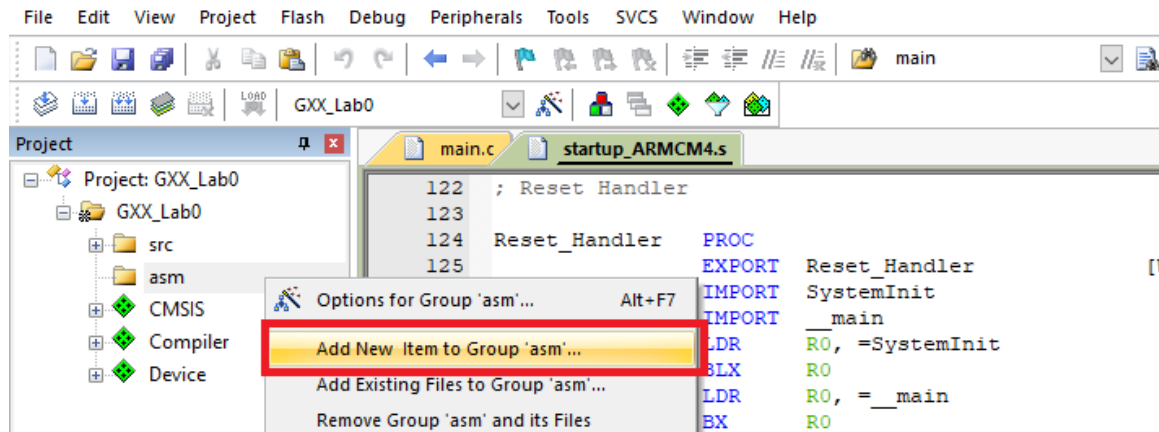

Figure 19: Adding a file to the *asm* group.
1. Create a new file **add.asm.s** in the *asm* group as shown in Figure 19 and Figure 20. Write the code shown in Figure 21 and save the file.